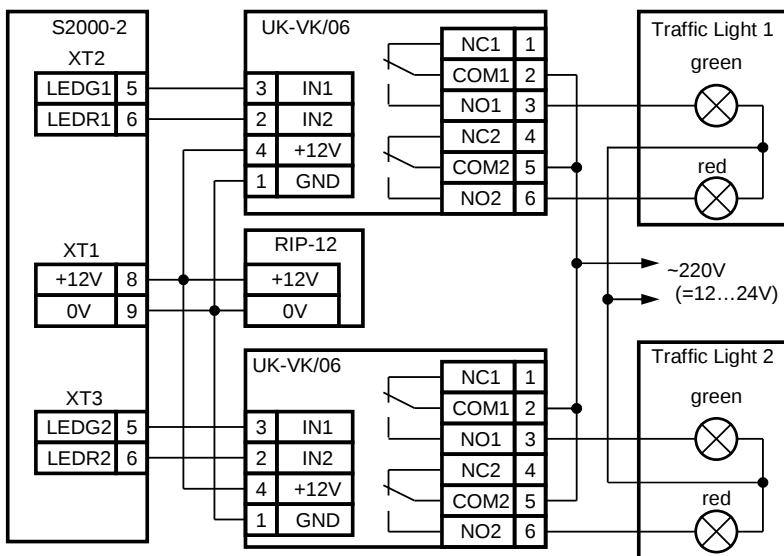

Figure 22. Schematic for Wiring Traffic Lights to the S2000-2 in the Boom Barrier Mode
4.10.5 If necessary, connect traffic lights via relay amplifiers UK-VK/06 commuting voltage up to 220 V (ac) and current up to 10 A (see Figure 22).